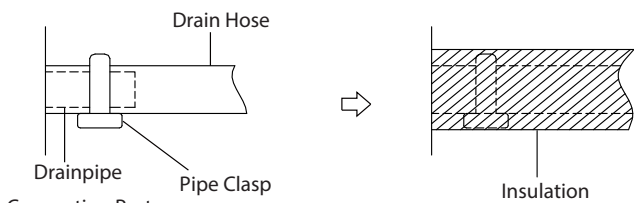

Fig. 6.1
2. Attach the mouth of the drain hose to the unit's outlet pipe. Sheath the mouth of the hose, and clip it firmly with a pipe clasp. (See Fig 6.1)